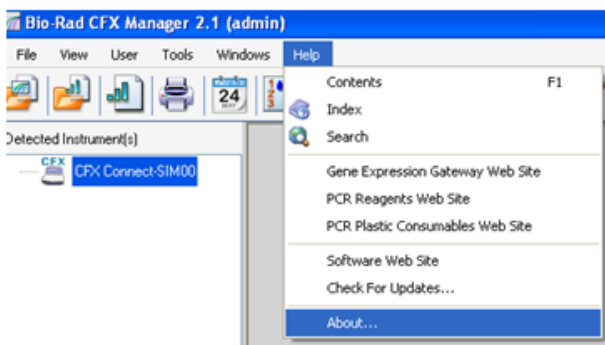

Fig. 3. Navigating in the main window of CFX Manager software.
1. Select **Help > About** from the main software window (Figure 3).